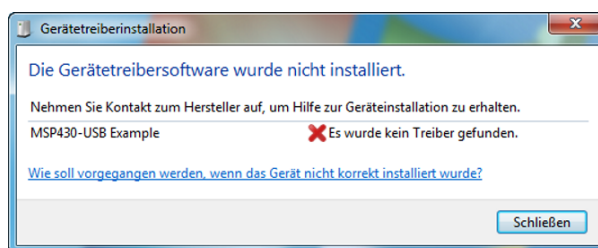

图 23. Driver Not Available
4. The following procedure applies when using a Windows® operating system. After connecting to the PC, the TIDA-00662 should be recognized automatically as a USB device called *MSP430-USB Example*, without a valid driver (see 图 23).